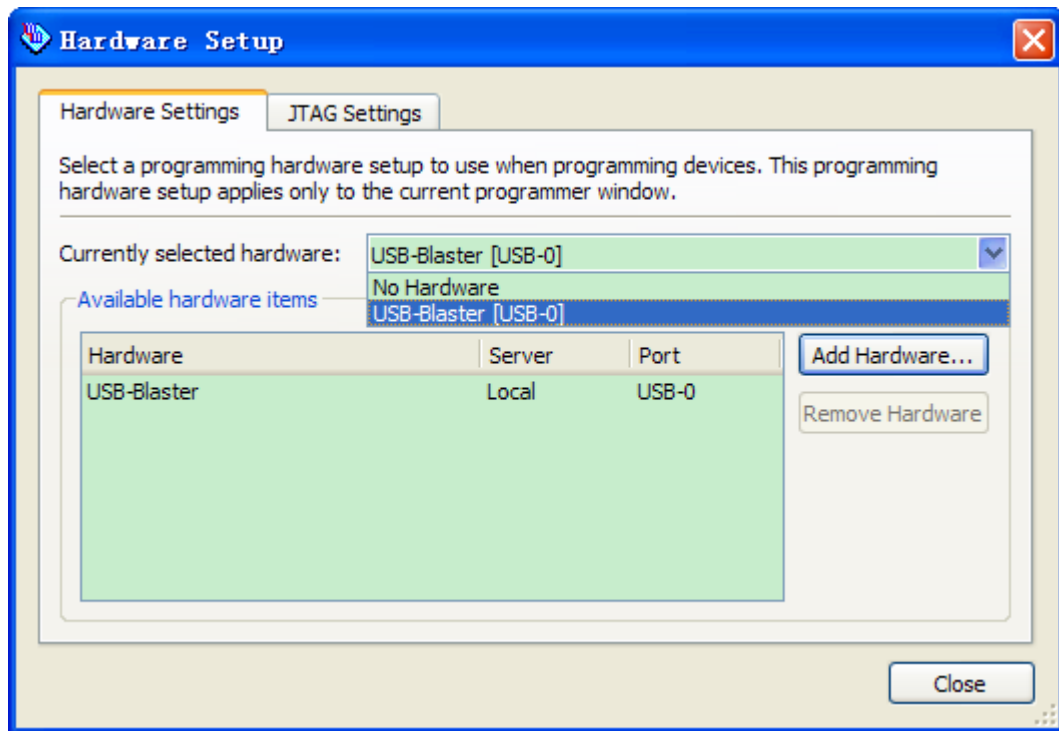

Figure 6-47 Hardware Setting
3. If it is not already turned on, turn on the USB-Blaster [USB-0] option under currently selected hardware, as shown in **Figure 6-47**.